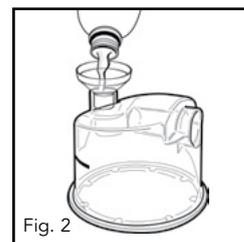

Fig. 2
- c. Fill the chamber up to the water filling line with distilled water only (Fig. 2).